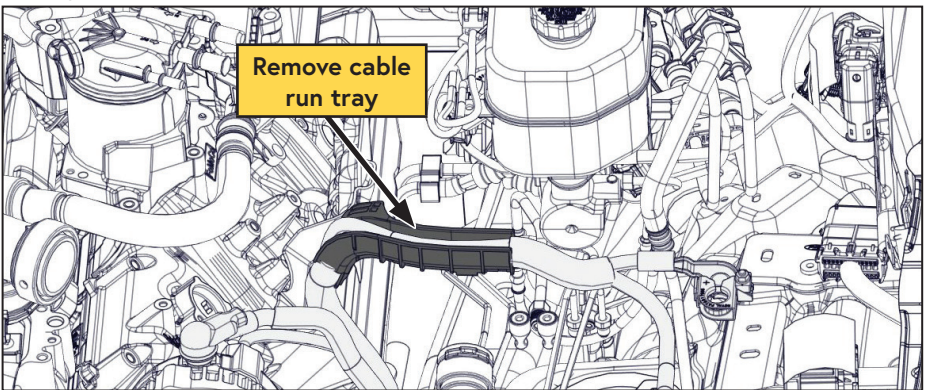

Figure 6 — Remove cable run tray
- ☐ Remove and discard the cable run tray from the driver side battery cables (Figure 6).